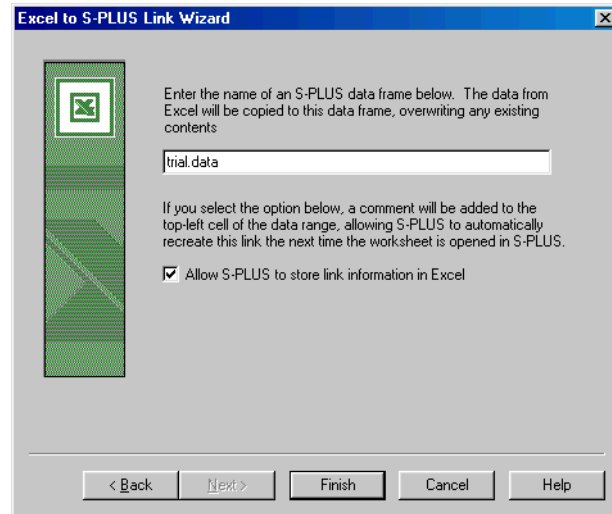

Figure 10.6: Naming the new data frame in S-PLUS.
8. As shown in Figure 10.6, the final page of the wizard asks you to specify a name for the new S-PLUS data frame. Type the name of your choice in the text box and click **Finish** to close the wizard and create the link from Excel to S-PLUS.